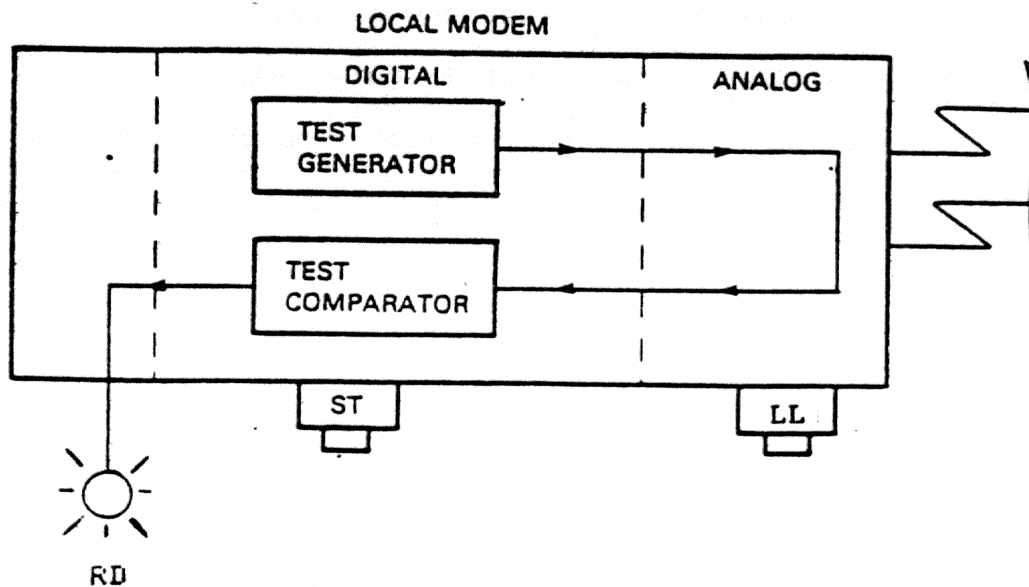

Figure 4-3 Local Analog Loopback Selftest
4.3.1 Local Analog Loopback Selftest (Figure 4-3)